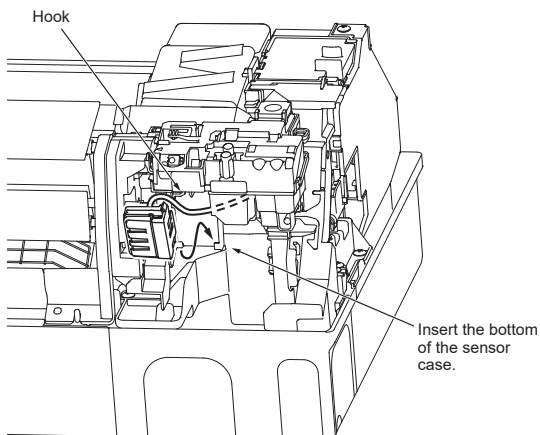

Fig. 3
- 4) Insert the refrigerant sensor in the direction of the arrow and then fix it with the hook. (Fig. 3)